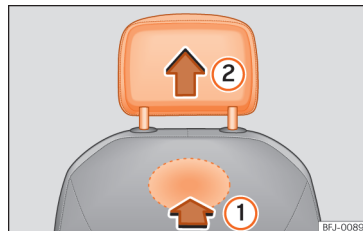

Fig.77 Front head restraint: removal.
- To unlock it, look for the rabbet on the bottom of the backrest and press in the direction of the arrow »» Fig. 77 ①.
- Remove the head restraint in the direction of the arrow ②.